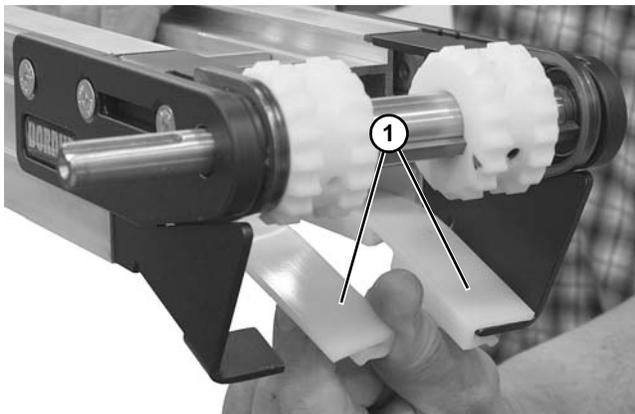

Figure 87
3. Remove lower wear strips (**Figure 87, item 1**).